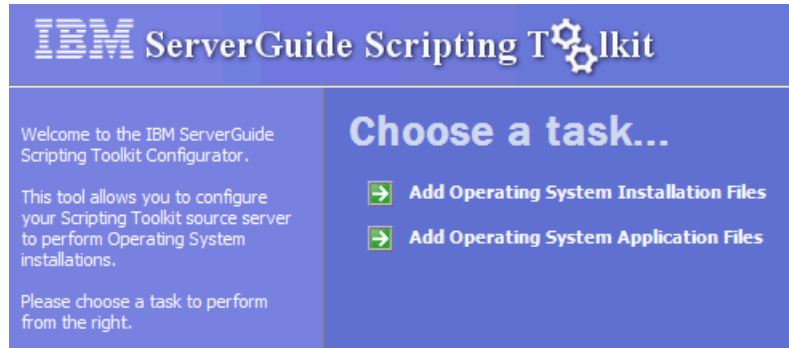

Figure 7-46 IBM ServerGuide Scripting Toolkit
2. Select **Add Operating System Installation Files**, as shown in Figure 7-46 on page 351.